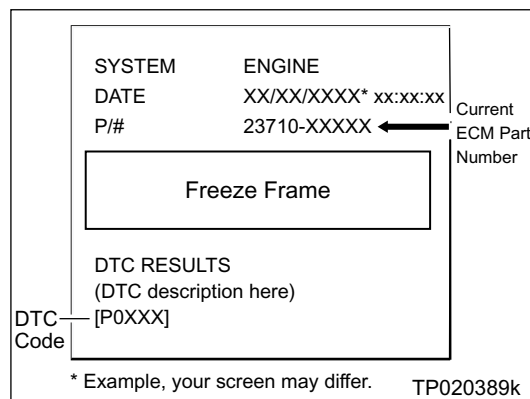

Figure 2
- Figure 2 is an example of the F.F. Data printout.